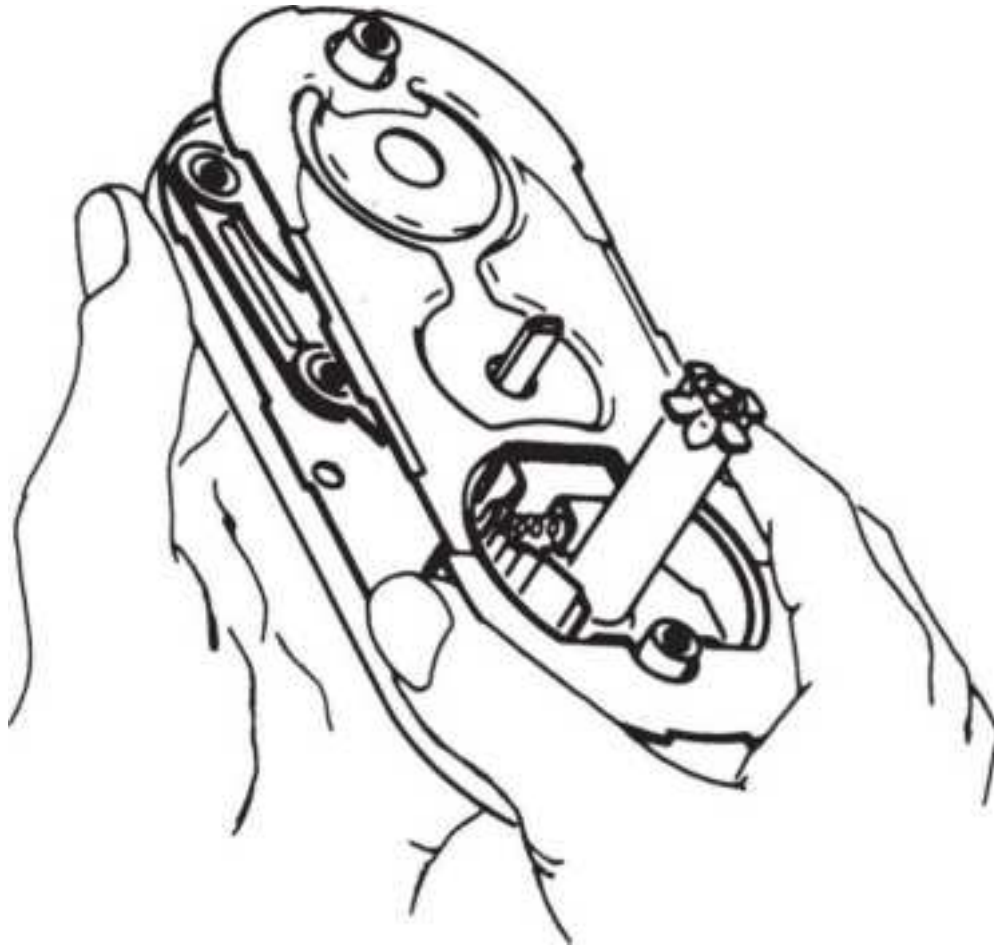

**Figure 13.71** Changing hand, Step 2.
2. Lift off the mounting-plate cover (Fig. 13.71 ).